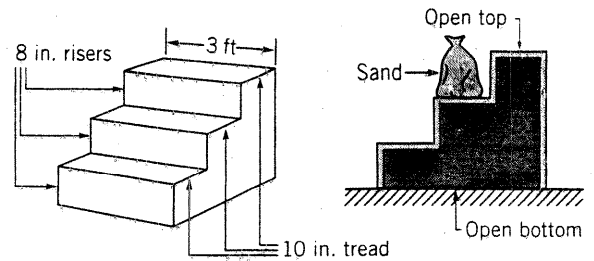

FIGURE P2.48
2.48 Concrete is poured into the forms as shown in Fig. P2.48 to produce a set of steps. Determine the weight of the sandbag needed to keep the bottomless forms from lifting off the ground. The weight of the forms is 85 lb, and the specific weight of the concrete is 150 lb/ft^3 .